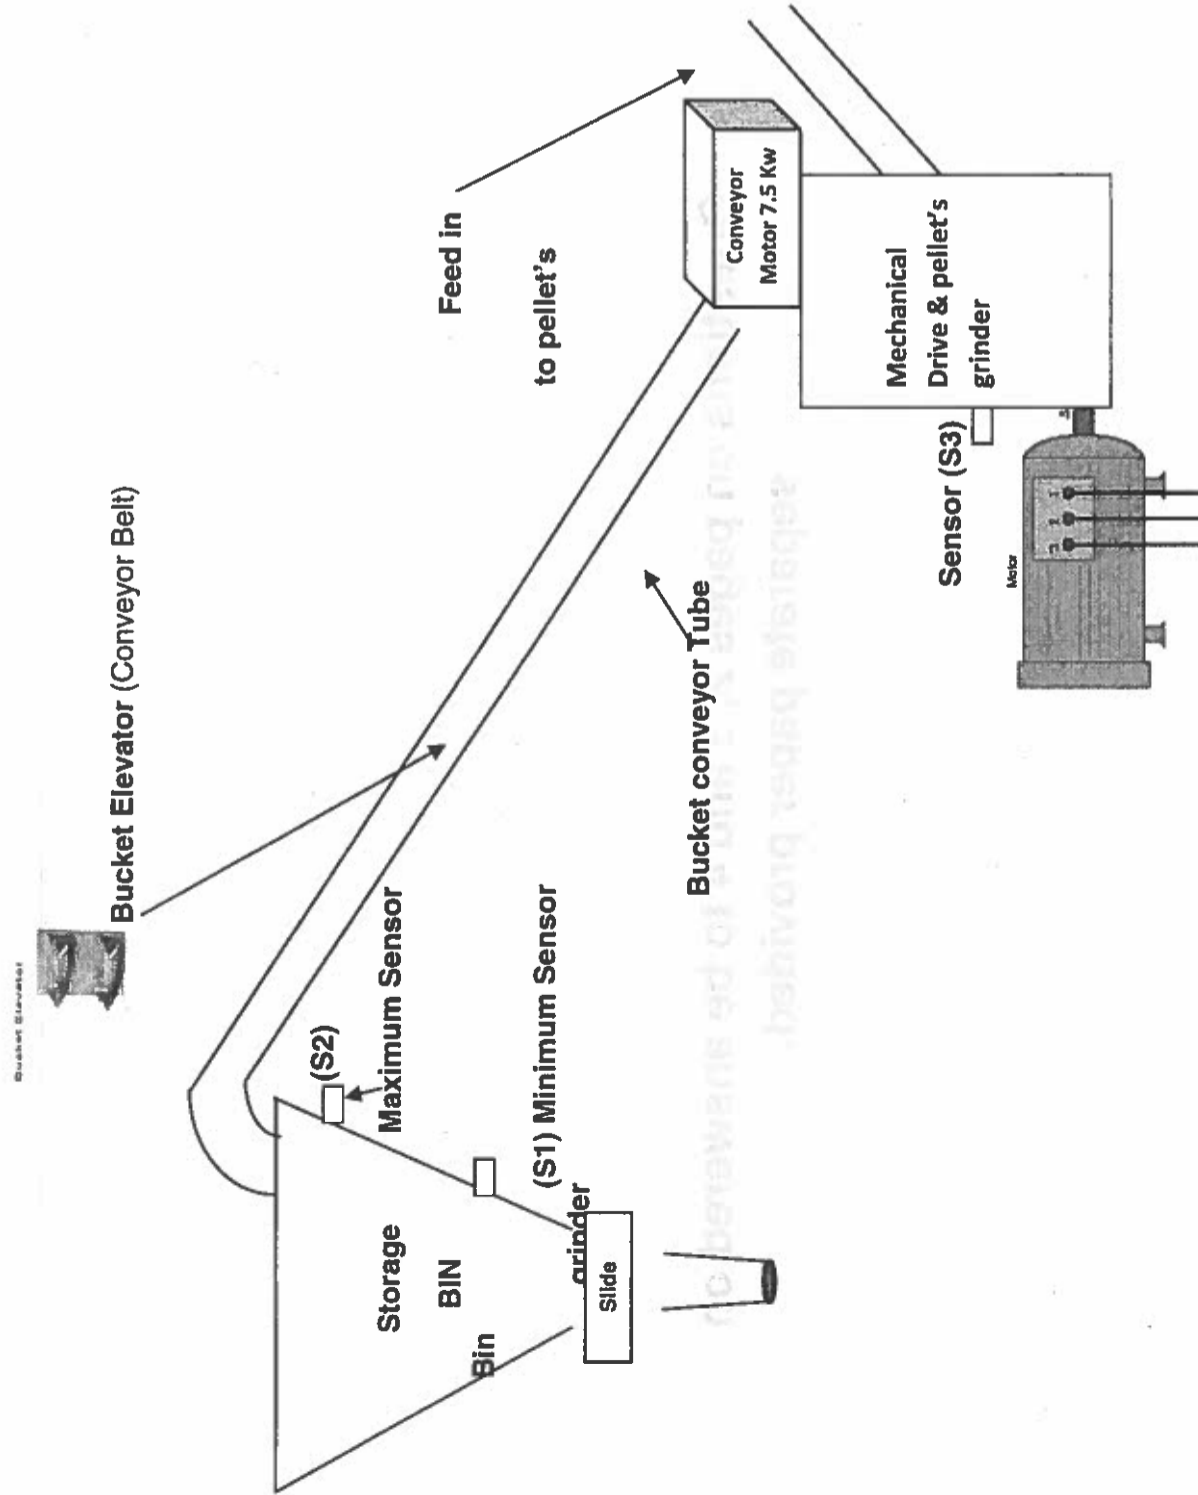

Figure 1 Motor Grinder 25 KW
- c) Draw the control circuit for this application shown in Figure 1. (18 marks)
Refer to Figure 1:
The storage bin is equipped with two sensors (S1- Minimum & S2 - Maximum). The grinded pellets are transferred to the storage bin by a bucket elevator driven by the 7.5 kW motor and the level is controlled by the above mentioned sensors shown in Figure 1.